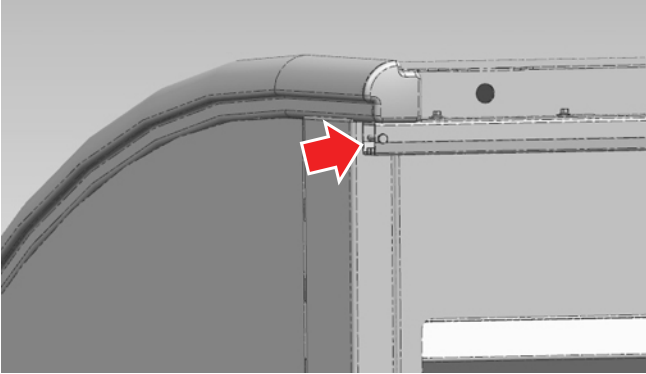

Figure 2
4. Remove the guide-rail stop bolt and set aside for reinstallation. Slide door out of the guide-rail (see Figure 2).
8. Reinstall the door into guide-rail reinstall the guide-rail stop bolt that was set aside in step 4 and tighten bolt to 75 lbs/in of torque (see Figure 2).